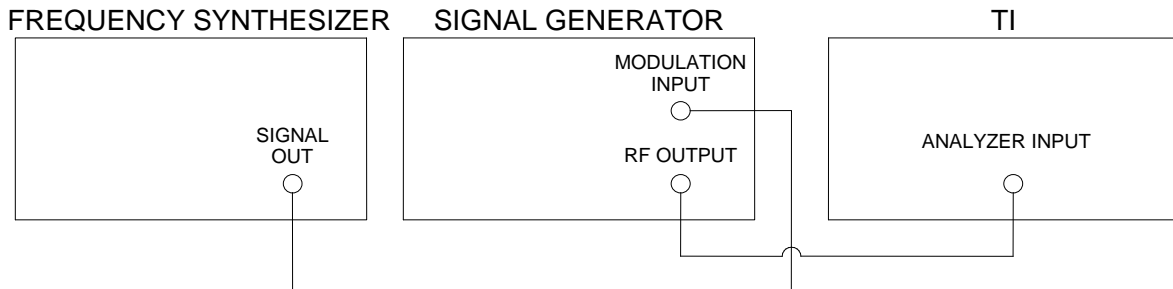

Figure 4.
4.12.2 Connect the equipment as shown in Figure 4.